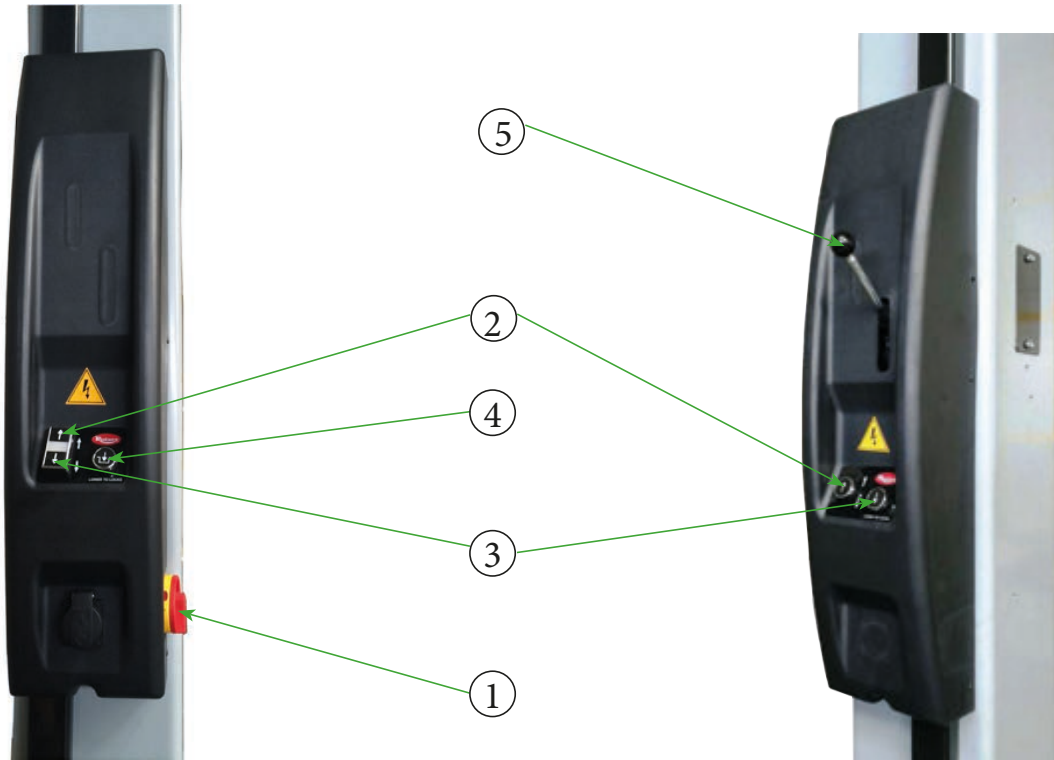

Fig. 1
- Operate the  switch (Fig. 1) to lower the lift onto the pawls when the desired height has been reached.
- Always use safety stands as required when heavy components are removed or installed. (Engines, transmission, etc.). (4) Use safety stands.